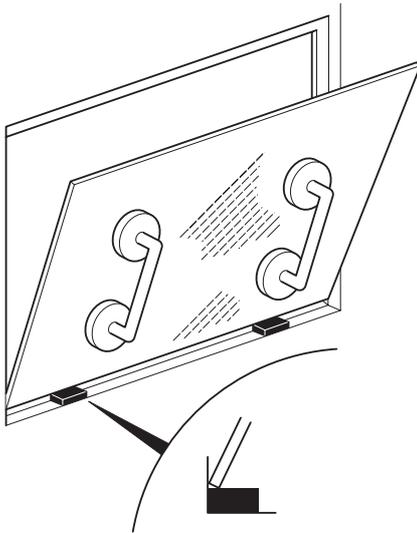

Fig 13.
- b Sit the bottom edge of the glass on the spacer blocks. ⇒ Fig 13. \(□ B-55\)